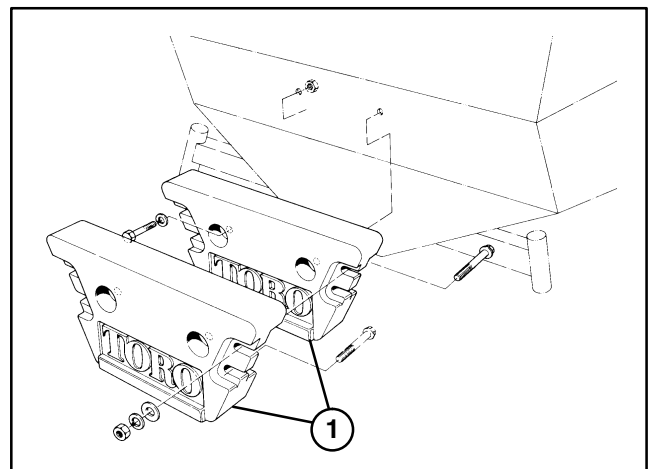

Figure 17
MOUNT REAR WEIGHTS (Fig. 17)
1. Mount rear weights to back of machine as shown in figure 17. Order kit #24-5780 (includes 2-weights, mounting hardware and installation instructions) from your Authorized Toro Distributor.